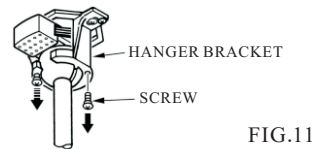

FIG.11
- Remove one of screws and loosen the other screw from the hanger bracket. (See fig. 11)